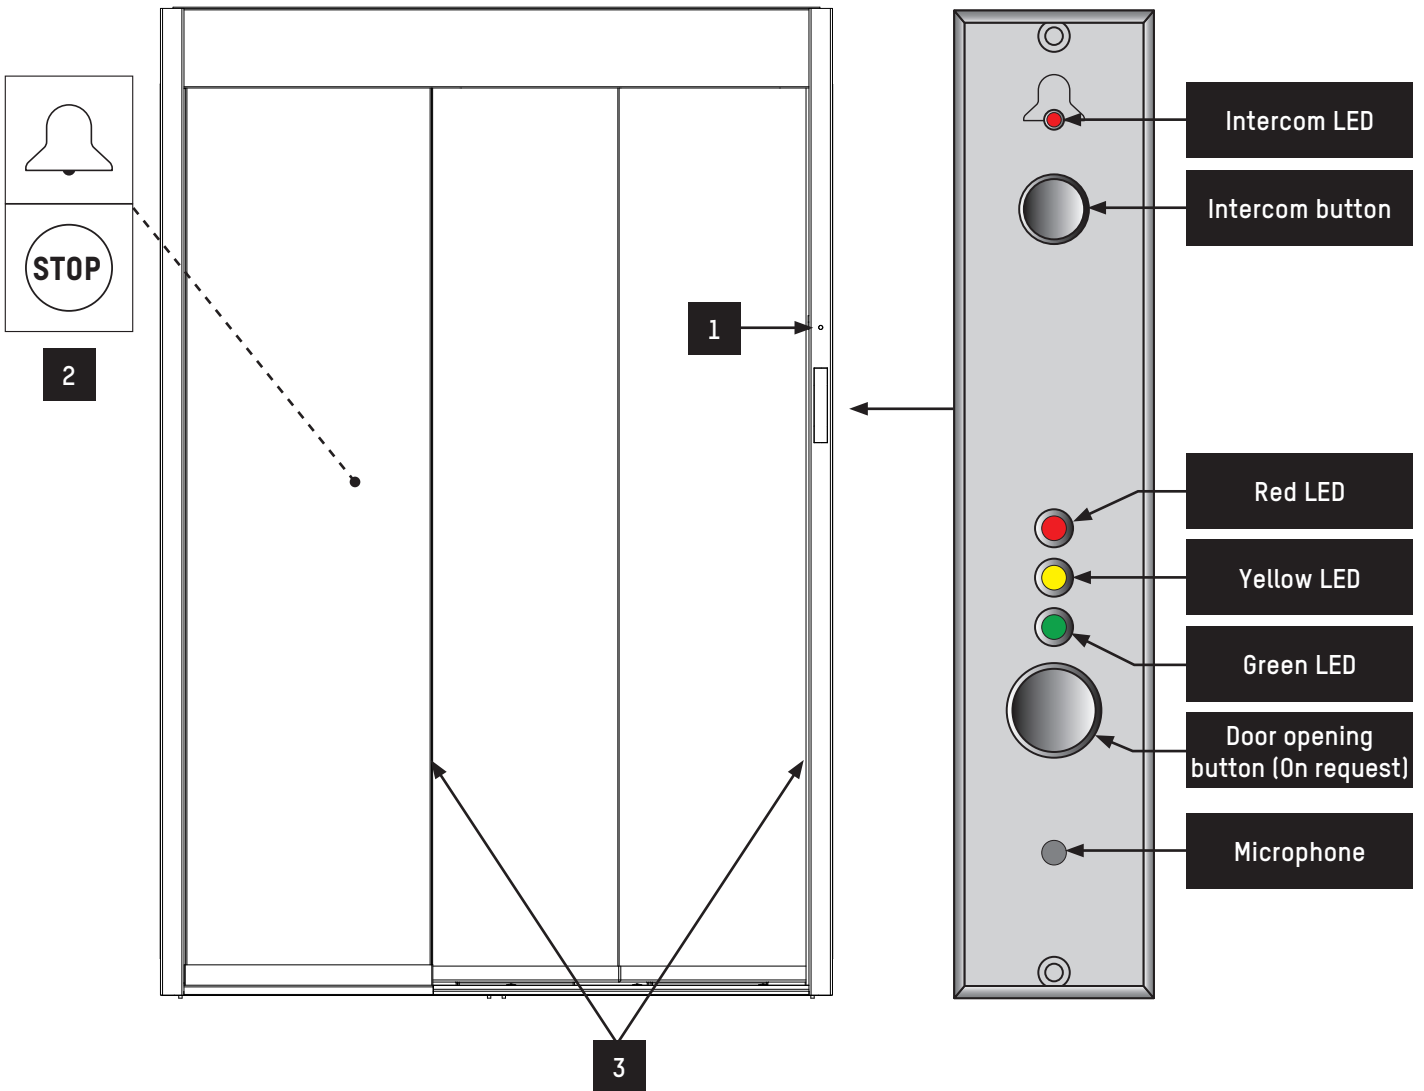

Fig. 2 - External side view
The security booth can be switched on and off with the mechanical key situated on the top of the external side of the booth (⇒ Ref. 2, Fig. 2, page 11).
1. Press the call button (⇒ Ref. 1, Fig. 2, page 11) situated on the side of the passage compartment and wait for the door to open